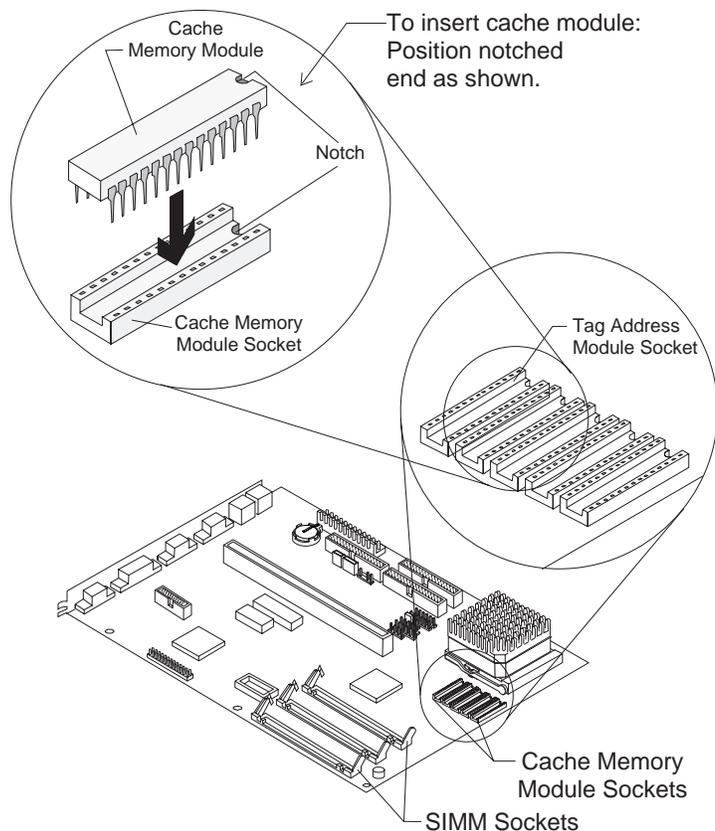

Figure 4-13. Cache Memory Modules - Type H-1
1. Locate cache memory module connectors U28 - U32 on the system board (see Figure 4-13 on page 4-13).